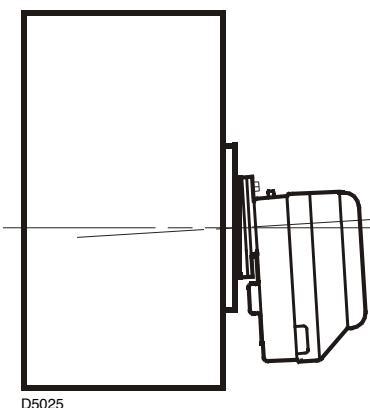

Fig. 8
- When the installation is complete, check the burner is slightly tilted, as shown in Fig. 8.